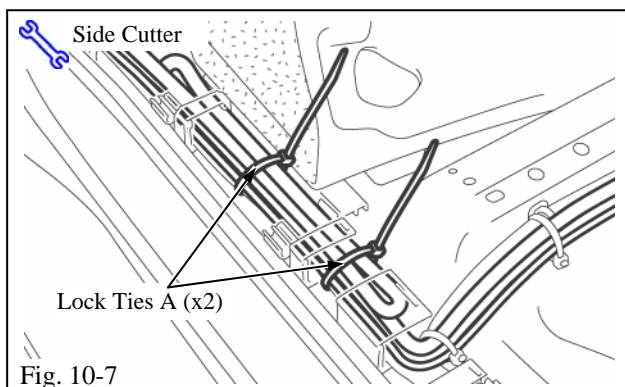

Fig. 10-7
(j) Even out the length of the cables and secure the tuner cable, antenna cable, and ground cable with the two (2) lock ties A. (Fig. 10-7)